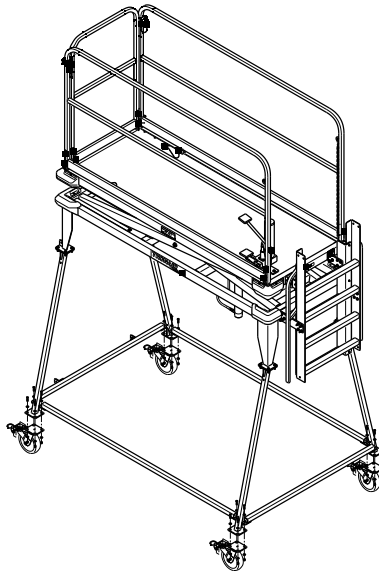

FIGURE 2
3. Install extension braces, casters and swivel locks using $\frac{3}{8}$ -16 x 1½ inch long bolts. (See *Figure 2*)